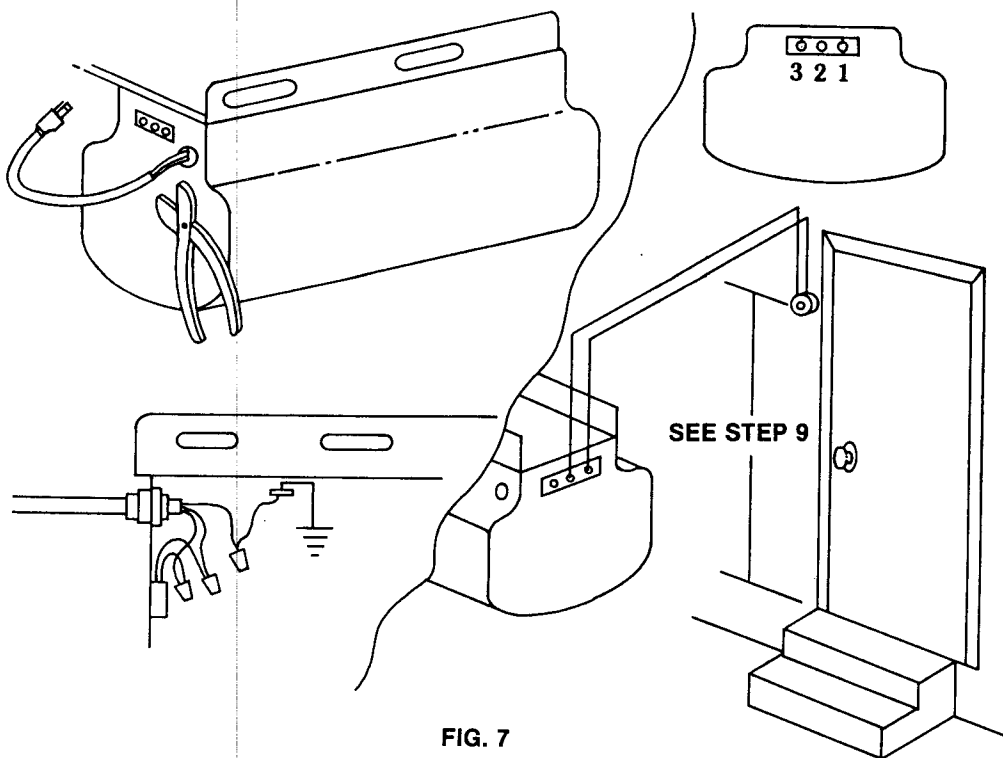

FIG. 7
STEP 9. Three terminal screws are provided at the back of the operator. They are numbered from right to left as 1, 2, 3. Terminals 1 and 3 provide 24 VAC to power a radio receiver. Terminals 1 and 2 are for the wall button connection. Connect the radio receiver according to the instructions provided with the radio. Connect the wall button wires according to Fig. 7. Avoid using solid wire and be certain that the placement of the wall button is **OUT OF THE REACH OF CHILDREN**. Attach the pull cord securely to the release lever at this time but do not cut the cord. It is to be adjusted later.